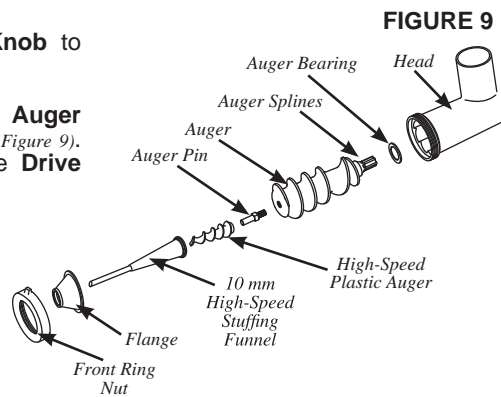

FIGURE 9
3. Insert the **Auger**, with the **Auger Bearing** attached, into the **Head** (Figure 9). Align the **Auger Splines** with the **Drive Shaft** of the **Grinder**.